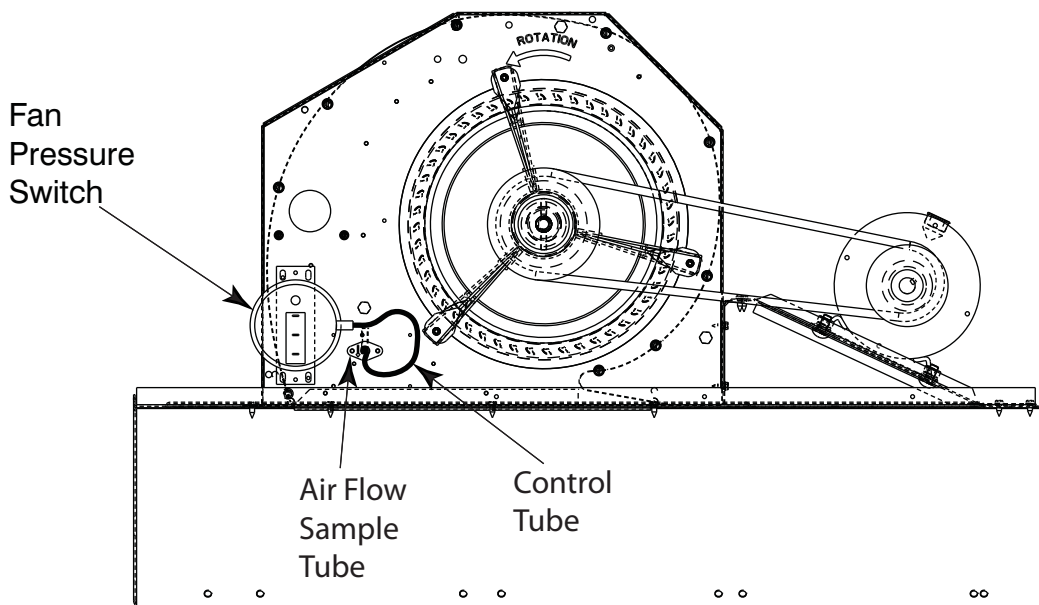

Fig. 1 - Fan Status Switch Mounting Location
3. Mount the switch on the fan housing in the Fan Section as shown in Fig. 1, using the #10 screws provided.